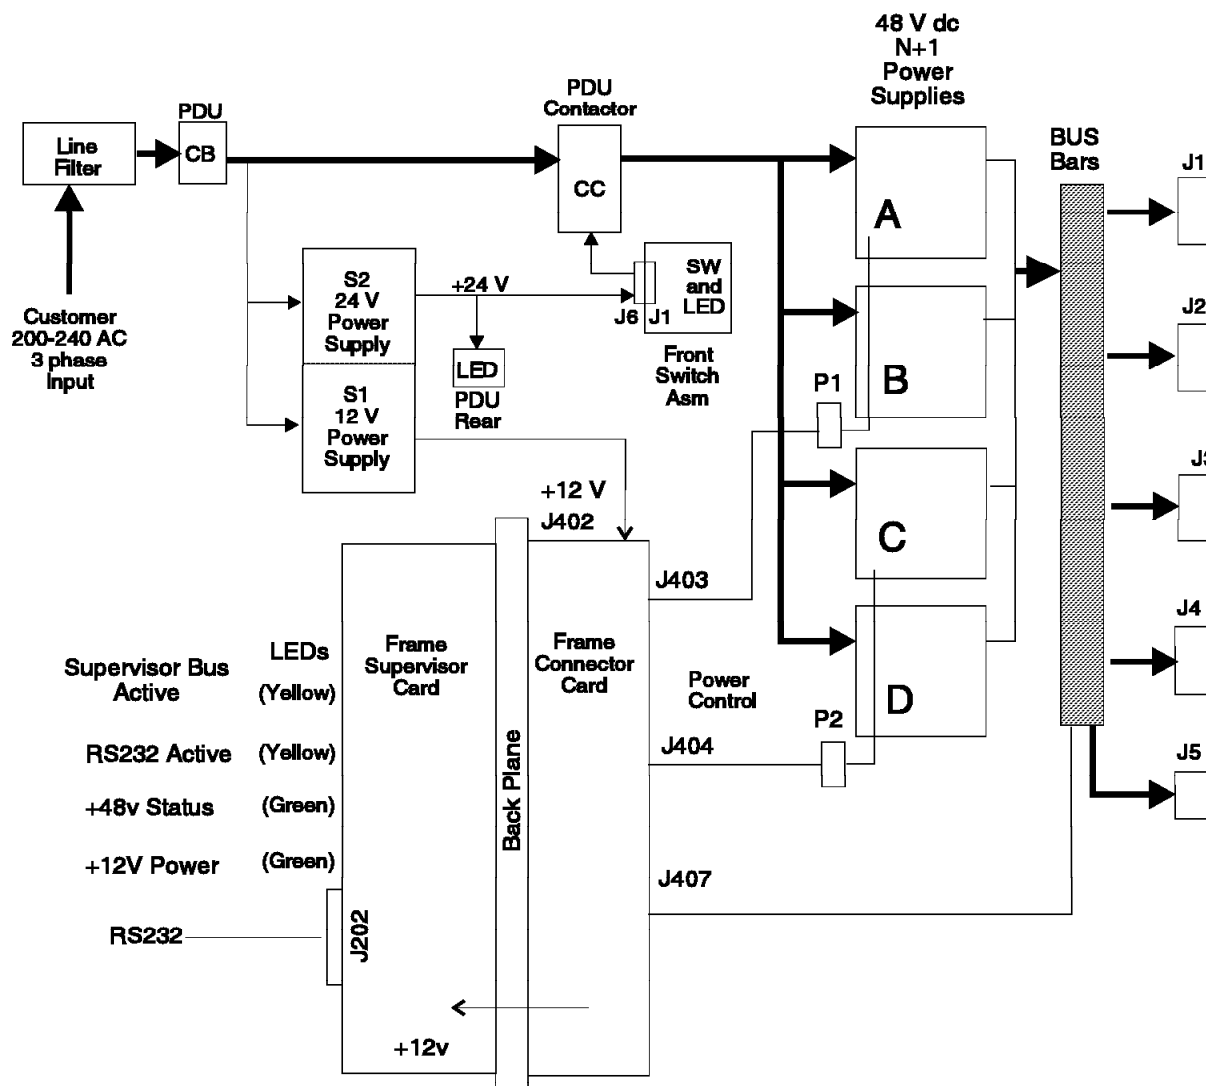

Figure 1-26. PDU + 48 V dc power diagram
- Refer to Figure 1-26 on page 1-94 to view the dc bulk power supplies.